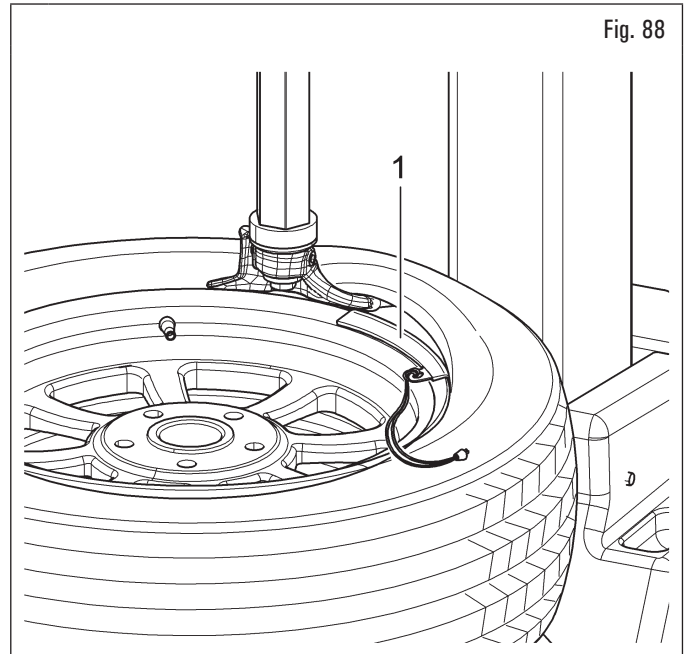

Fig. 88
If the rim is made of sheet metal, use the bead protector (Fig. 88 ref. 1).